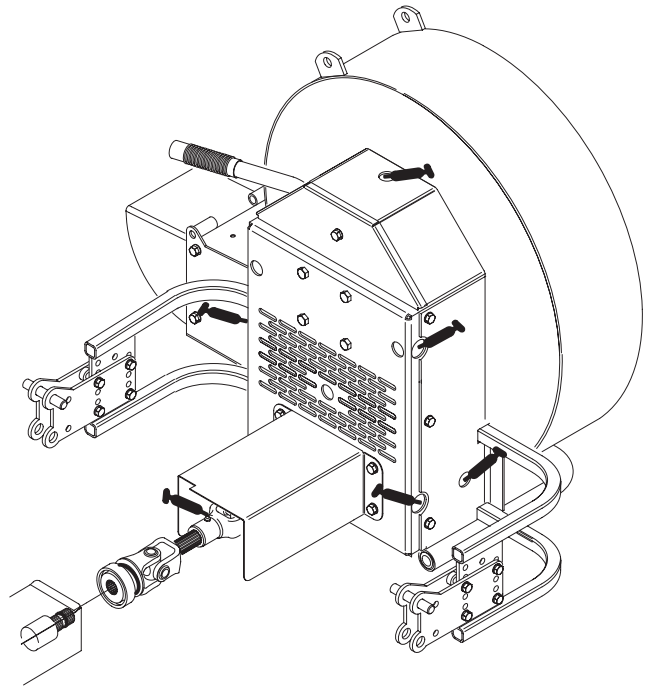

Figure 13
The debris blower has (6) bearings and bushings that must be lubricated (Fig. 13). The lubrication points are: fan shaft bearings (2), drive shaft bearings (2), over running clutch (1) and PTO drive shaft (2).